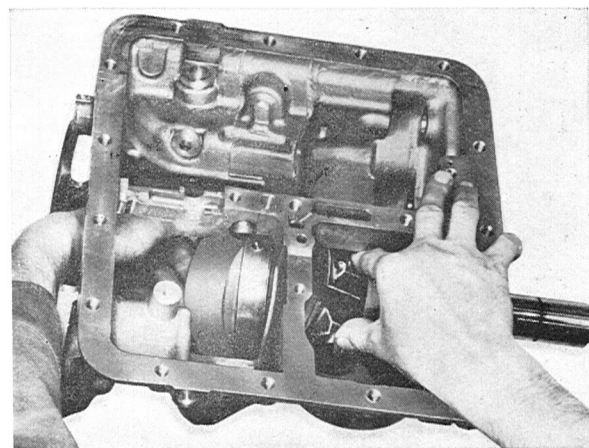

Fig. 4-110. Rear brake band installation
6. Place the brake band in position in the case, see Fig. 4-110. Then install the rear servo assembly. Tighten only the rear (short) piston screw since the long one also locates the center support.